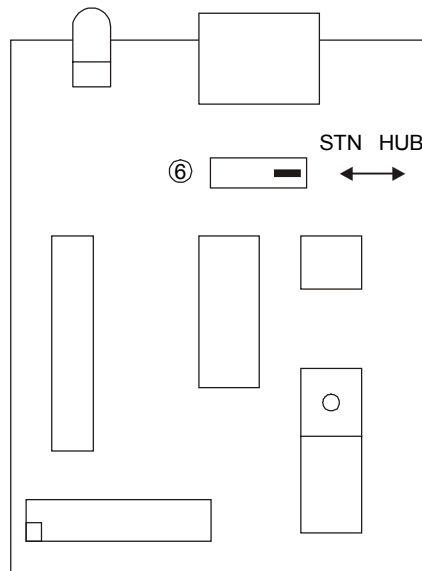

Figure 2-4. LAN Interface Module (UTP)
9. To enable direct connection between MBE and a UTP interface in any workstation, set the STATION/HUB Switch to STATION (see Figure 2-4). This is available only with the UTP option.